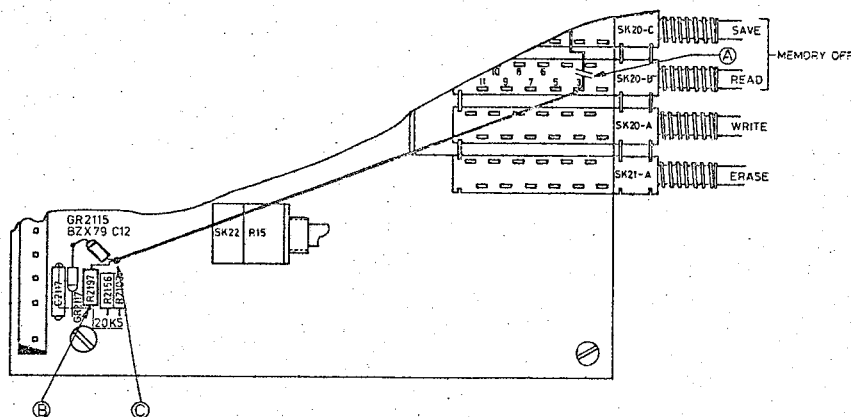

Fig. 1. Part of variable persistence and storage unit.
2. Interrupt the track (on the track-side of the p.w.b.) between point 3 of SK20B (READ) and the anode of GR2117 as indicated in fig. 1 (A).
4. Solder one side of a resistor of 20k5 (5322 116 55255) on the point, which is connected with C2117 as indicated in fig. 1 (B) (on the component side of the p.w.b.).
5. Solder between the resistor of 20k5 and the anode of the zenerdiode GR2117 a zenerdiode (GR2115) BZX 79 C12 (4822 130 34197). The cathode of GR2115 to the anode of GR2117 (see fig. 1).
6. Mount an interconnection wire between the anode of GR2115 (fig. 1 (C)) and point 3 of the switch SK20B (READ).